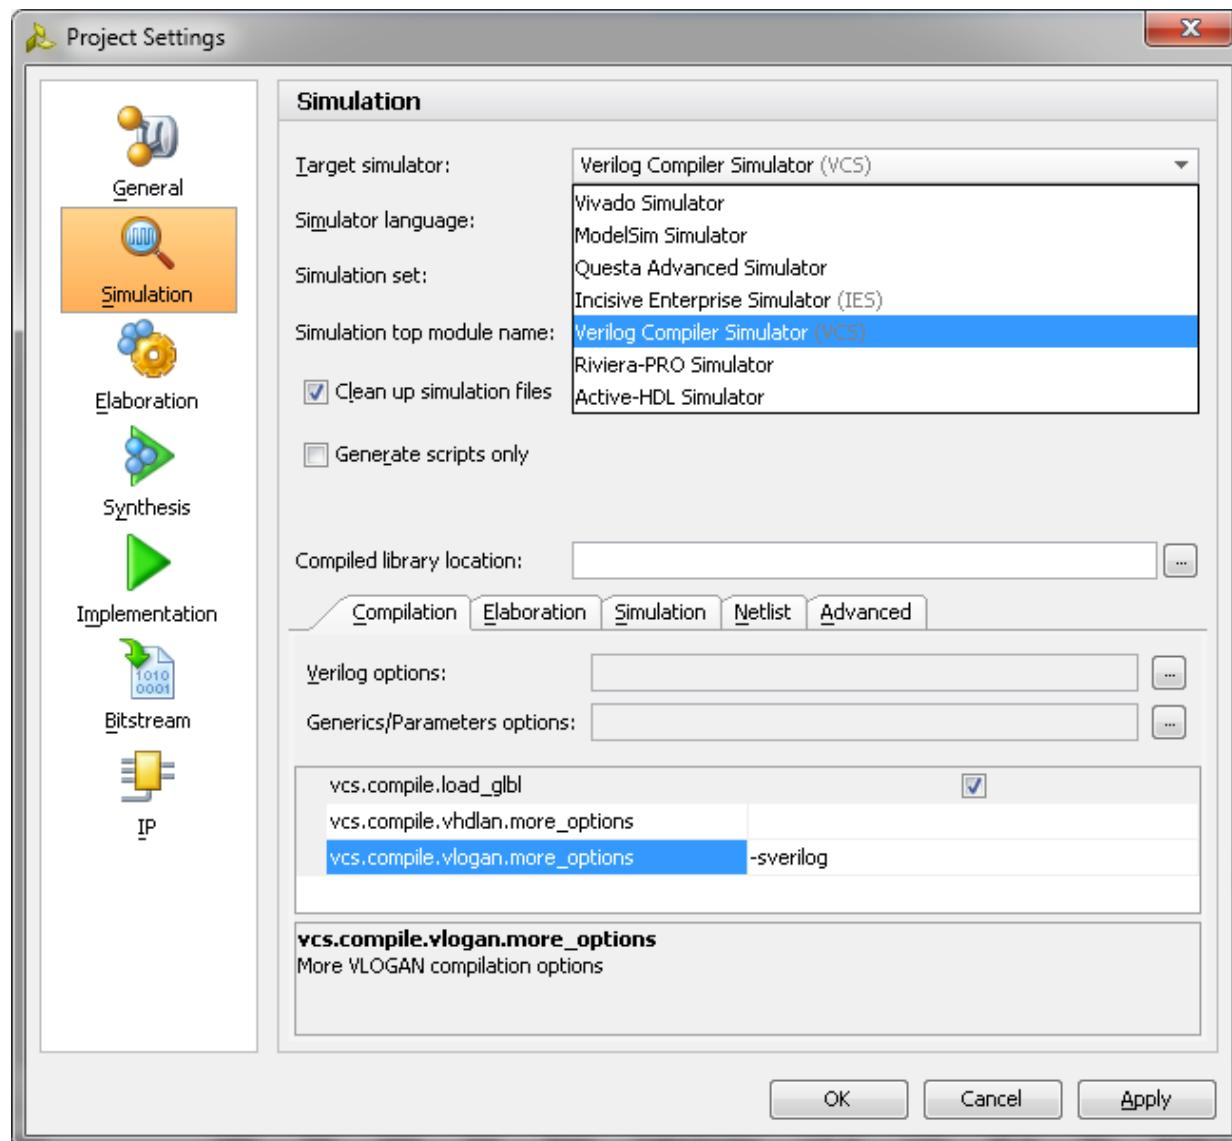

Figure 3-67: Simulation with VCS
- c. Under the **Simulation** tab, set the **vcs.simulate.runtime** to 1 ms (there are simulation RTL directives which stop the simulation after a certain period of time which is less than 1 ms) as shown in Figure 3-67.